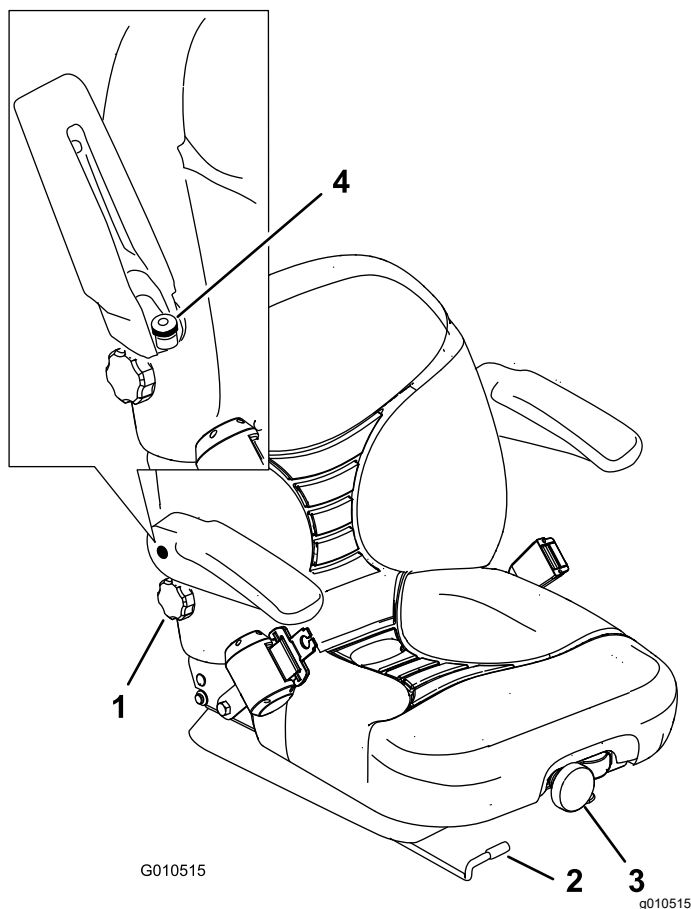

Figure 29
1. Move the lever sideways to unlock the seat (Figure 29).
To adjust it, turn the front knob in either direction to provide the best comfort (Figure 29).
To adjust it, turn the knob under the right armrest, in either direction, to provide the best comfort (Figure 29).
Raise the armrest and turn the knob, in either direction, to provide the best comfort (Figure 29).